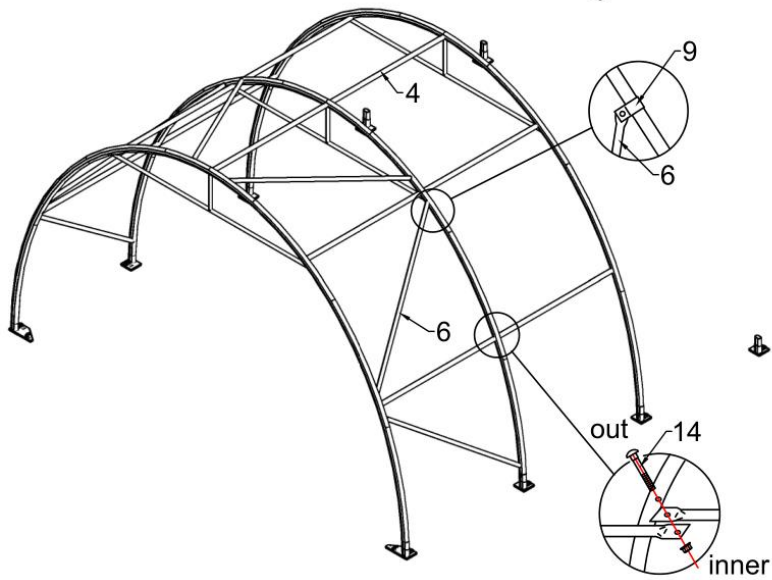

Figure 4
3.2 As Figure 4 shown to fix Roof Support Tube (No.6A) by using Bolt M10x30mm (No.15) if your products is the PLUS model.